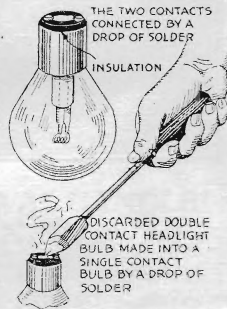

Fig. 5. Solder turns double filament bulb into fine stop light.
**D**DOUBLE filament headlight bulbs are no longer useful in the headlights when one filament burns out. However these bulbs can be converted into single contact bulbs useful for dome, stop lights and so on by a simple job of soldering. If you examine such a bulb you will find that there are two contacts at opposite sides of the insulation that protrudes from the base. Take a soldering iron as shown in Fig. 5, and flow a little solder across the insulation joining the two contacts. Be careful that no solder flows down over the insulation and makes contact with the metal shell as this would cause a short circuit.